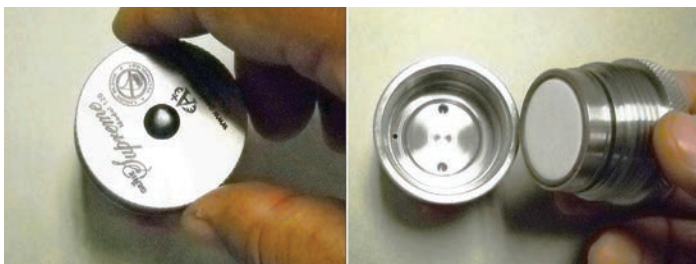

Figure 94: Removing the filter cap
2. Turn the filter cap counter-clockwise (see *Figure 94* below). You might need to use a channel-lock wrench to assist in loosening the cap.